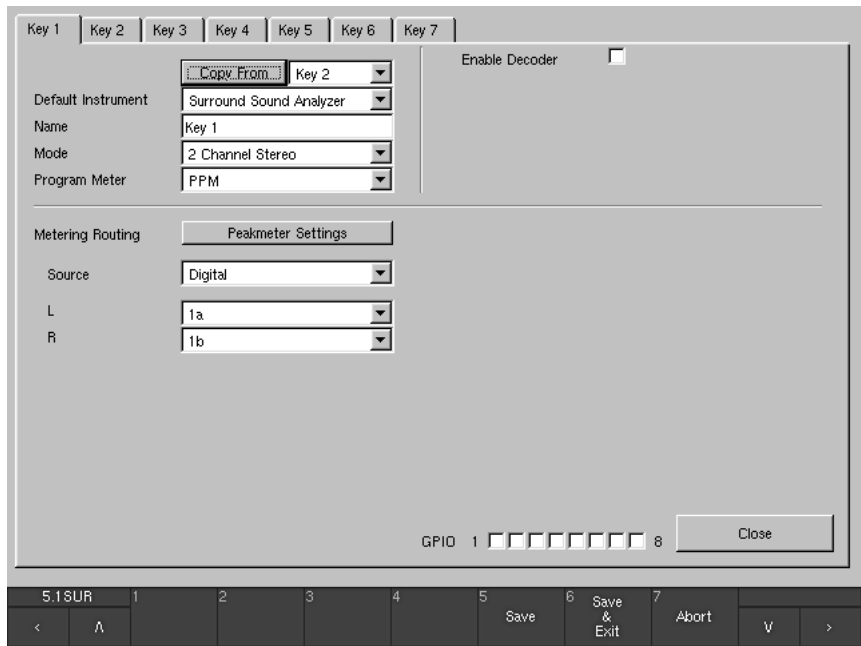

Fig. 6-17: Global Input Routing menu page with „2 Channel Stereo“ mode selected
- **Copy From** (see Figs. 6-17 to 6-23)
- **Default Instrument** (see Figs. 6-17 to 6-23)
- **Name** (see Figs. 6-17 to 6-23)
- **Mode** (see Figs. 6-17 to 6-23)
Depending on this mode setting the menu page will change its options. Please refer to the screen shots earlier in this chapter to see how the page looks like in each mode (see Figs. 6-17 to 6-23).
See Figs. 6-17 to 6-23
- **Program Meter** (see Figs. 6-17 to 6-23)